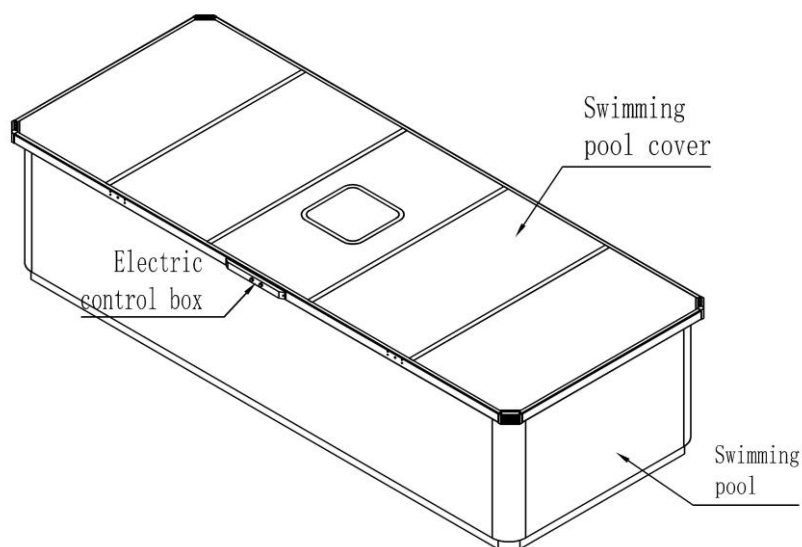

Fig 5.3
- 4、 (1) Place the column with the wiring connector on the left side of the electric control box, as shown in Figure 5.3. (Note that the column arrangement position refers to 2.1)